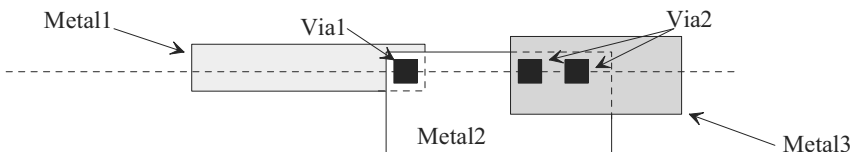

Figure 3.27 Layout for Problem 3.5.
- 3.5 Sketch the cross-sectional view, at the dashed line, for the layout seen in Fig. 3.27. What is the contact resistance between metal3 and metal2?